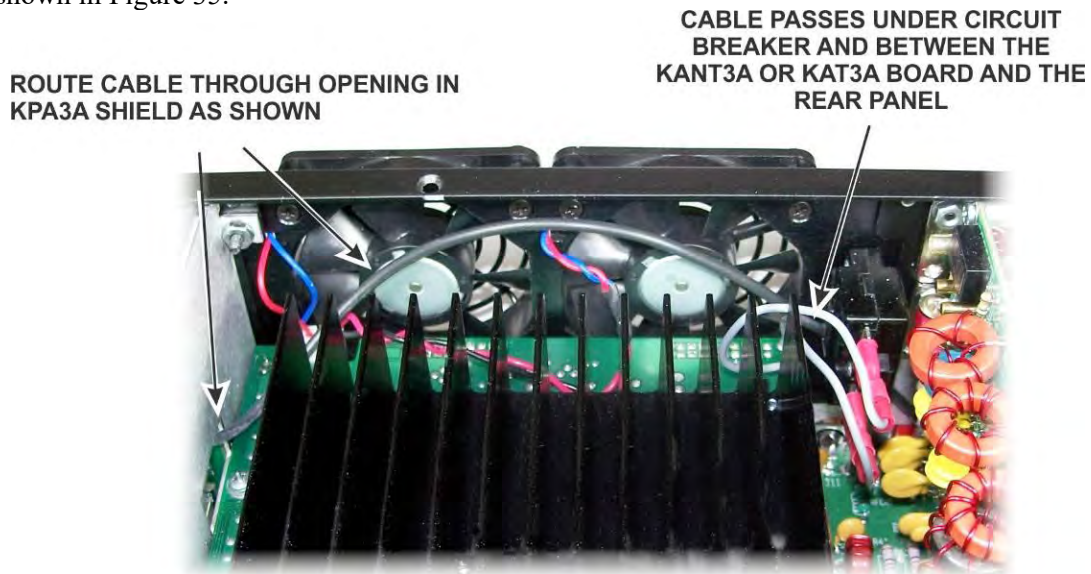

Figure 35. Routing TMP Cable to Rear Panel AUX RF Connector with KPA3A Installed.
□ Thread the coaxial cable between the edge of the KANT3A or KAT3A board and the rear panel as shown. If you have the KPA3A option installed, push the cable under the circuit breaker on the fan panel at an upward angle so it crosses the fans above the mplifier module circuit board and out through the hole in the KPA3A shield as shown in Figure 35.